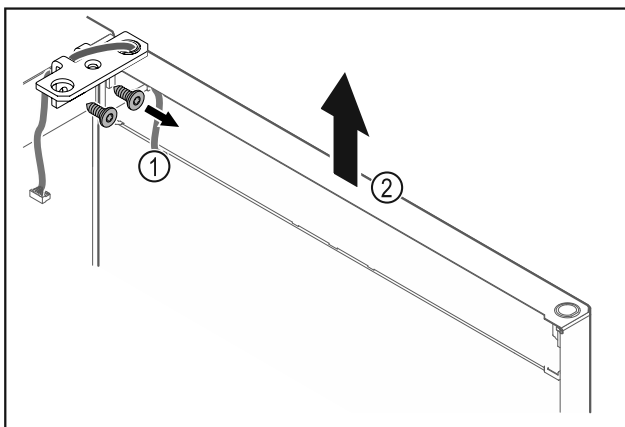

Fig. 23
- ▶ Unscrew the hinge Fig. 23 (1).
- ▶ Lift the door with the hinge straight up by Fig. 23 (2) roughly 200 mm and take it off.